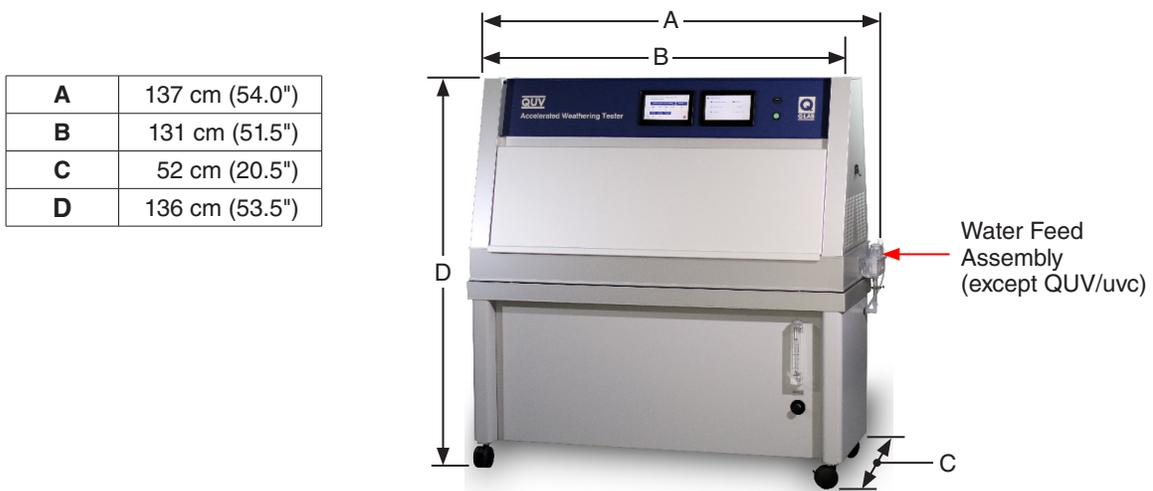

Figure 6.1a: External dimensions.
- The external dimensions for QUV testers are shown in Figure 6.1a.